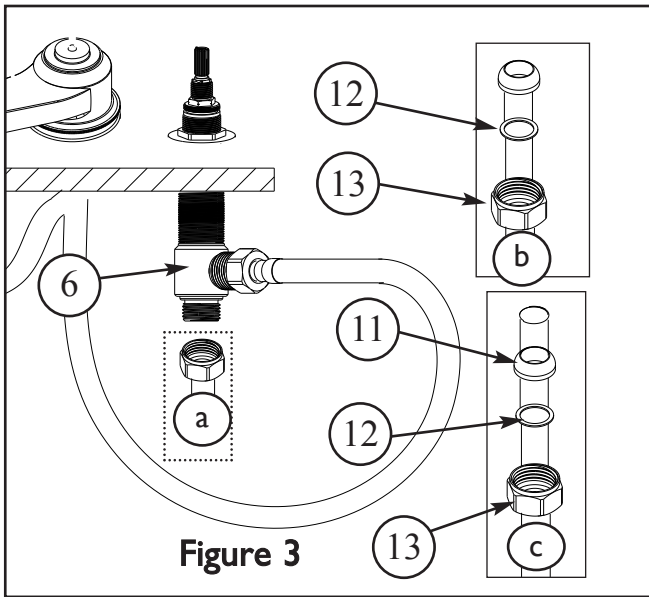
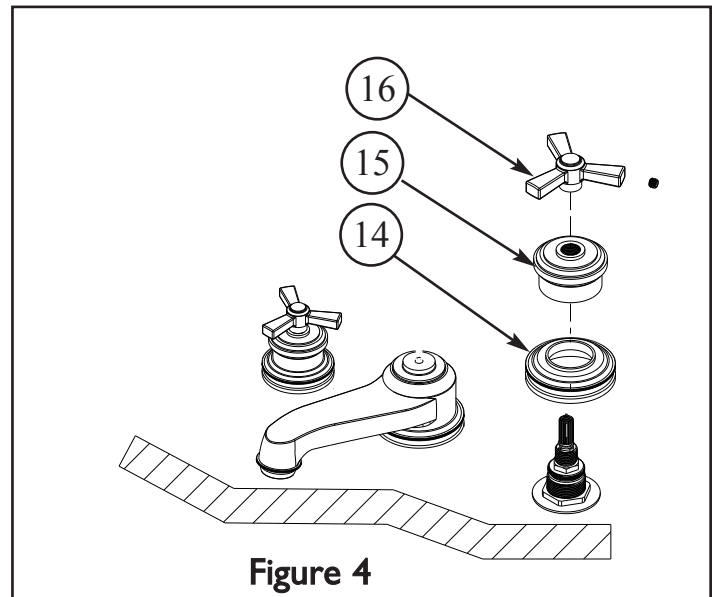

Figure 3
Figure 4
4. Connect hot/cold water supply to appropriate 1/2" NPSM valve BODY (6), utilizing one of the three following types of risers. Supply risers not included. See Figure 3.
- a. 1/2" IPS flexible riser: discard rubber nosecone WASHER (12), friction WASHER (13) and coupling NUT (14).
- b. 3/8" or 1/2" OD bullnose riser: utilize friction WASHER (13) and coupling NUT (14).
- c. 1/2" copper riser: utilize rubber nosecone WASHER (12), friction WASHER (13) and coupling NUT (14).
5. Attach ESCUTCHEON (14), BONNET (15) and HANDLE (16). Any adjustments for rotational alignment must be made to the valve body - not to the cartridge. (Note: Allow minimum spacing between HANDLE (16) and BONNET (15) to prevent damage to the surface finish.) Secure HANDLE (16) into place with setscrews. See Figure 4.